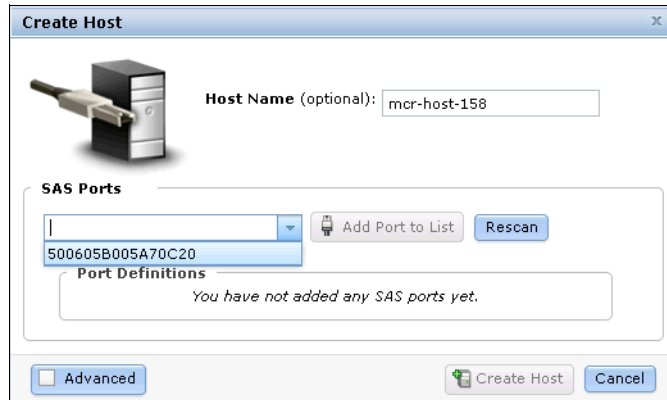

Figure 4-4 Available SAS WWPN or WWPNs
2. Enter the host name and, from the drop-down menu, select the SAS worldwide port name (WWPN) or names that are associated with the host, as shown in Figure 4-4.